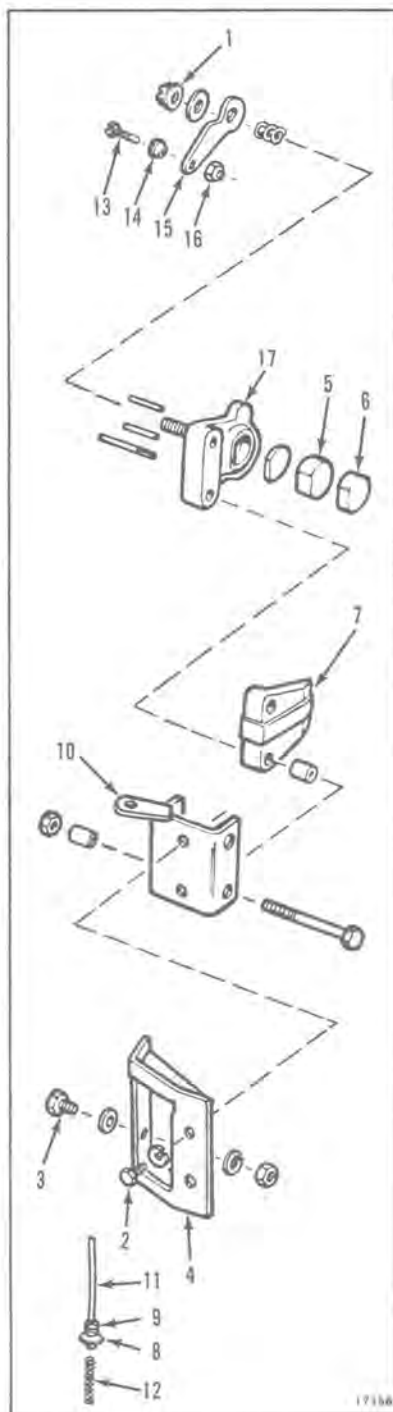

Figure 10-18
- a. Disassemble brake assembly as required, noting relative positions of components to assure correct reassembly (see Figure 10-18).
- b. Inspect brake pucks. If the free floating puck (5) is one half of its original 1/2" thickness, it should be replaced. When the fixed puck (6) is worn so that there is 1/32" or less protruding from the carrier (7), it should be replaced. Use a contact cement to secure new puck to carrier.
- a. Reassemble the brake assembly in reverse order and assemble to bracket. See Figure 10-18.
- c. Install adjusting fitting (8) and nut (9) to brake body (10).
- d. With cable installed in hand lever, insert brake end of cable (11) through adjusting fitting (8). Pull the cable through the casing as far as possible and install return spring (12).
- e. Assemble clamp screw (13) and bushing (14) to the brake cable (11), insert screw thru hole in actuator cam (15) and secure with nut (16).
- f. Pull brake cable through clamp screw (13) until the hand lever is fully extended and all cable end fittings are seated. Tighten nut (16) until screw makes contact with the cable. Tighten nut an additional 1 turn to clamp the cable (torque 30-35 in. lbs.). Bend excess cable to 90°.